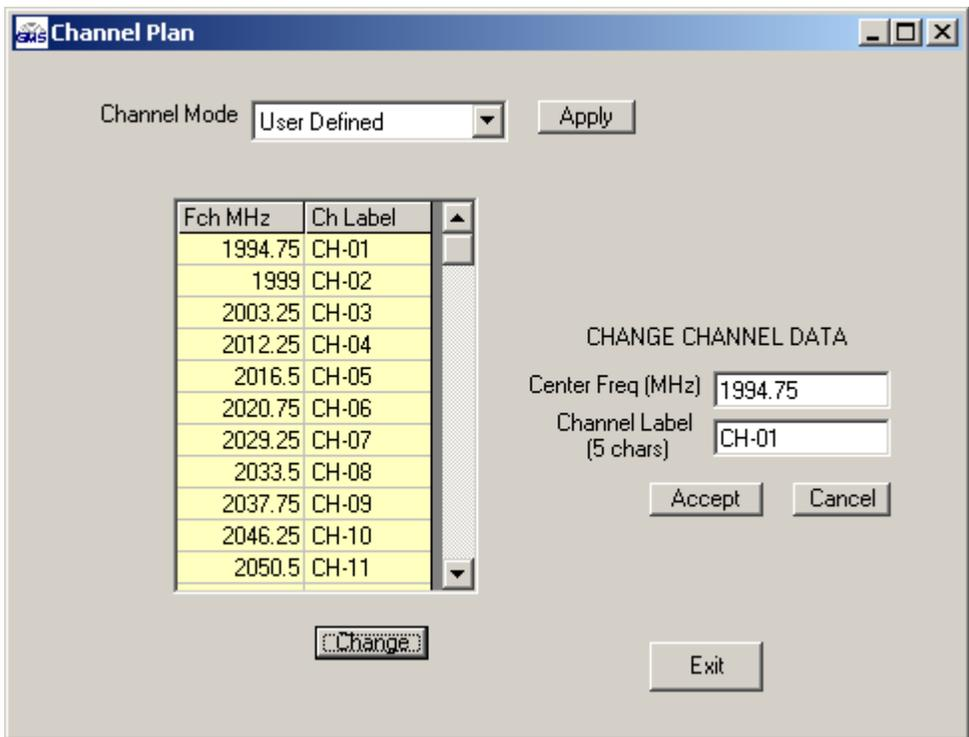

Figure 6b –User Defined Channel Mode Screen
- User Defined (reference figure 6b) – this channel plan is defaulted with 30 pre-defined channels initially but any channel and channel label can be modified. Select the “User Defined” channel mode using the pull down box and then click on the “Apply” button. Then click on the “Change” button.